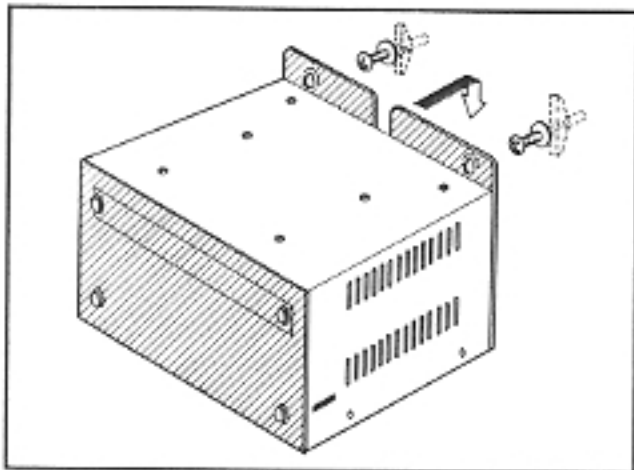

FIGURE 6—ROTATED BACK COVER
- 2) Rotate the back cover 180°, and realign it so that the flanges with the two keyholes project above the top of the MKSU (see Figure 6).
05.22 Secure the MKSU, as shown in Figures 6 and 7, with fasteners through the upper two keyholes and the single lower hole in the back cover. The fasteners should be either ¼-inch molly screws, toggle bolts, or lag screws, depending upon the type of wall surface being used.